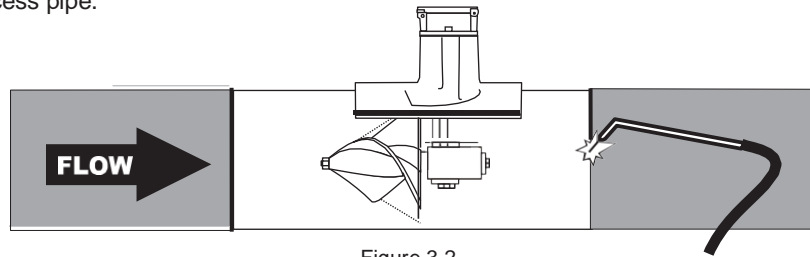

Figure 3.2
- Place the meter/tube section in place with the arrow on the meter saddle pointing in the direction of the flow. Secure the tube section into place with mechanical couplings or by welding into place (see figure 3.2).